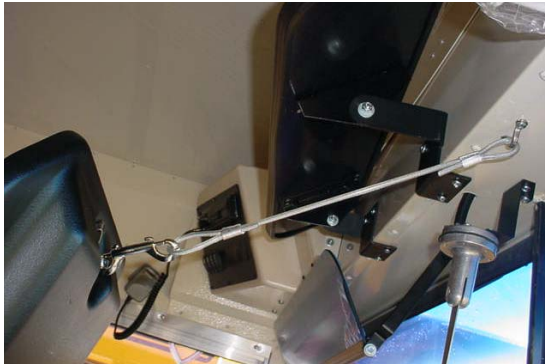

Figure 4
5. To retain the engine access cover in the open position, remove the cable latch from the right latch bracket and snap it on to the eye of the engine access cover latch bracket. See Figure 4.